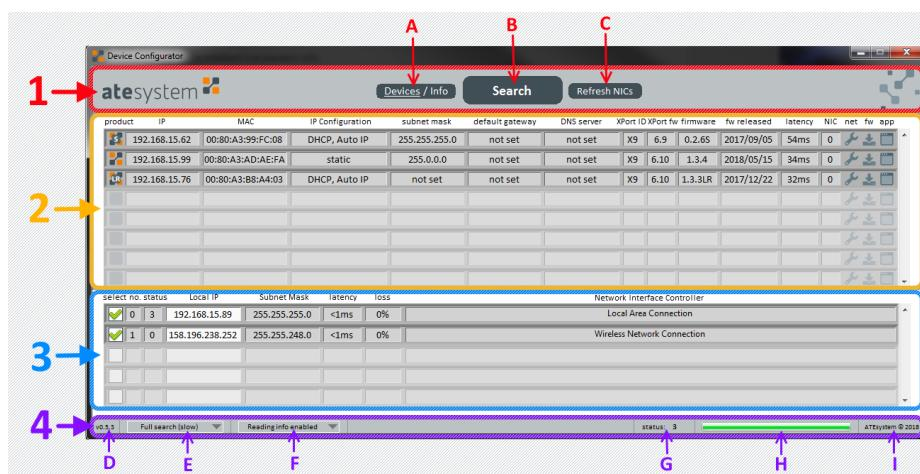

Fig. 1 – Layout and description of Device Configurator’s main window
- H. Status bar – visual representation of *status* (Fig.1 – 4.G)
*Networks* window (block No. 3, Fig. 1) shows all available network adapters, local IPv4 address, subnet mask, response, and **loss rate**. Response and loss rate are tested by ping. The local IP address can also be entered manually if the application does not find the adapter. In addition, this window displays two numeric values, *no.* is the order of adapters 0 through *n*, and *status* is the number of devices found in the particular network. The first checkbox from the left then determines which networks will be searched when you press the *Search* button (1B).
Devices window (block No. 2, Fig. 1) alternates with the *Info* window (chapter 2.3) depending on the position of *Devices/Info* switch (1A). Here you can find the most important information about the devices found. Product's icons are explained below; *IP*, *subnet mask*, *default gateway*, *DNS server* and *IP configuration* are regular network configuration parameters, which can be changed by clicking on the key icon with a *net* label (more details in chapter 2.4). If any setting is missing, the default is used, and system shows the following message: *not set*. *XPort ID* and *XPort fw* cannot be customized and indicate the type of internal Ethernet controller in the current source. *Firmware* and *fw released* show the version and release date of the device's firmware, *latency* indicates the approximate response, *NIC* field shows in what network the device was found (corresponds to the *no.* field in *Networks* window, chapter 2.1). Last three icons are described below.
*Info* window (block No. 2, Fig. 1) depending on the position of *Devices/Info* switch (1A). It displays information about the device that is specified in the relevant manual if the *Reading info enabled* option is selected in drop-down list on the Status Bar (4F).